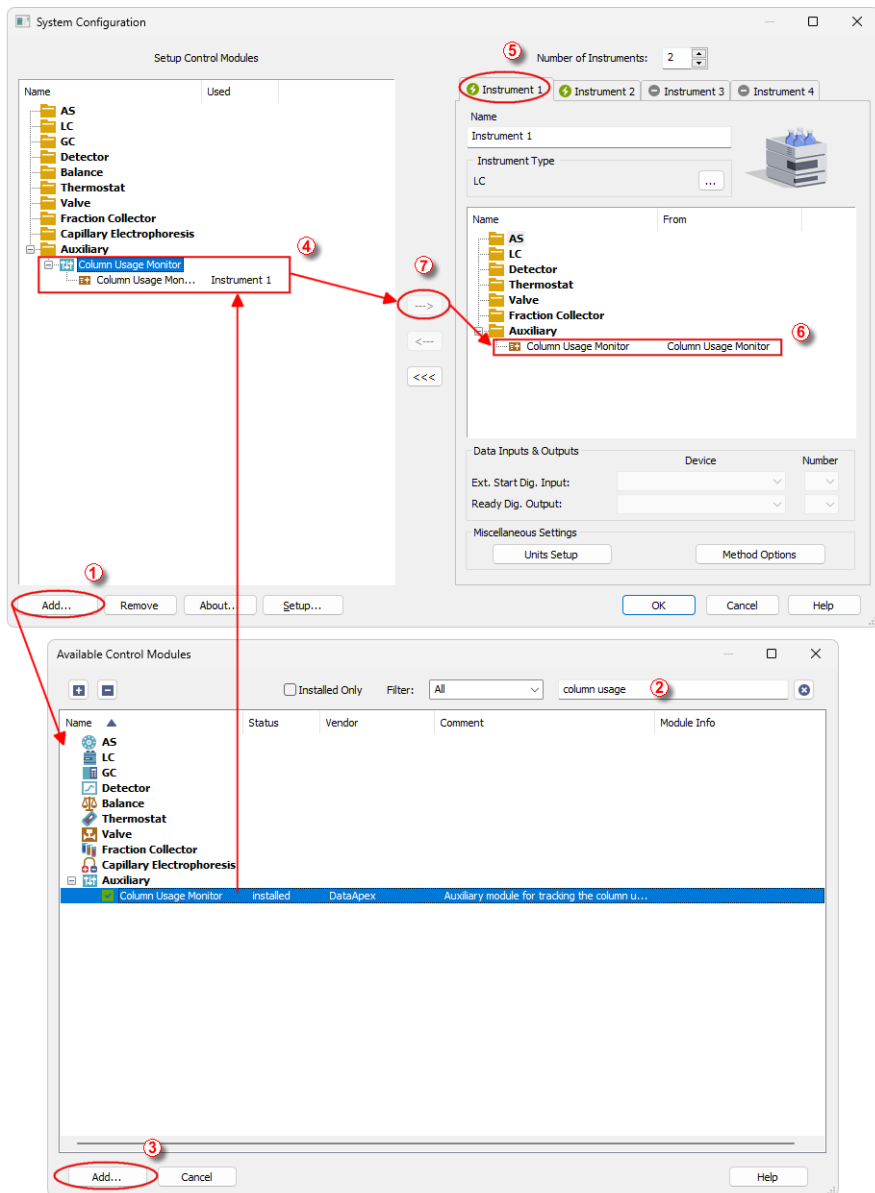

Fig. 1: System Configuration
- Press the *Add* button ① (See **Fig. 1** on pg. 4.) to invoke the *Available Control Modules* dialog.
- You can specify the searching filter ② to simplify the finding of the driver.
- Select the **Column Usage Monitor** item in the *Auxiliary* section and press the *Add* ③ button.